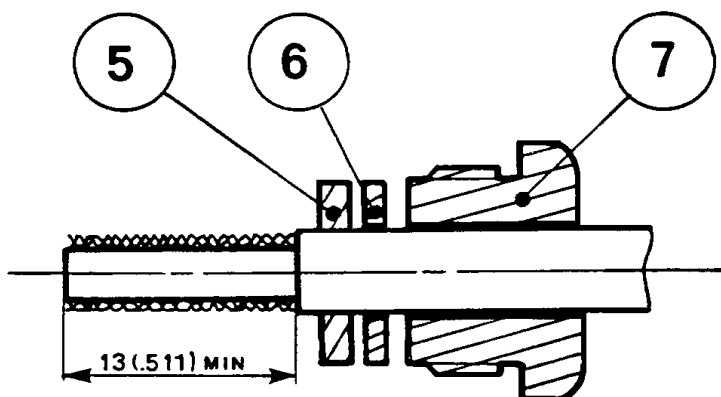

Figure 7
- 1) Trim jacket to dimension shown, see Figure 7.
- 2) Place nut (7) washer (6) and sealing ring (5) on cable.